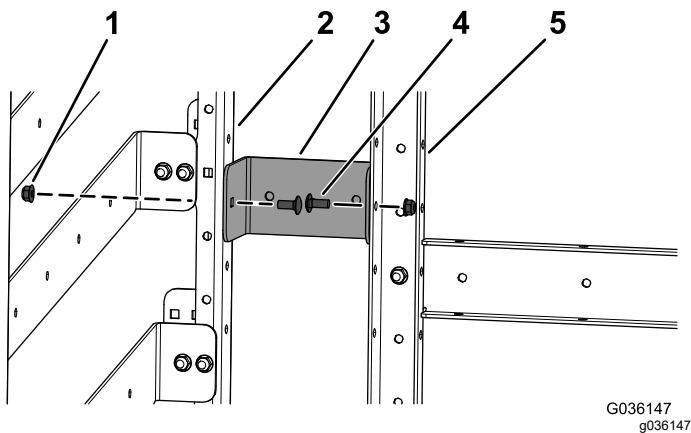
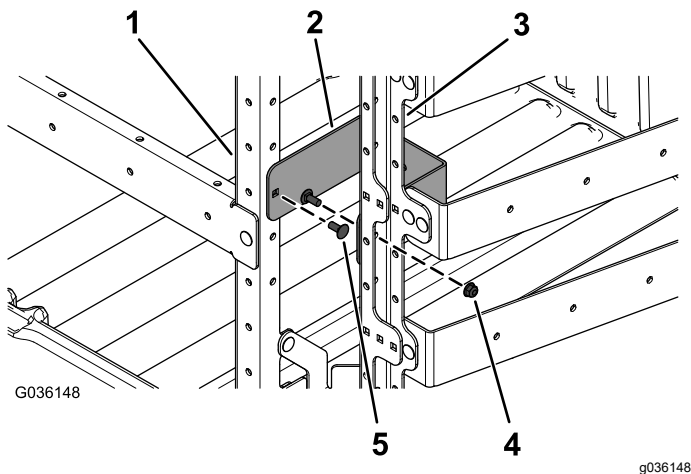

Figure 10
Figure 11
9. Install the fire-extinguisher support **or** cup-cutter bracket to the side upright frame bracket and front upright frame bracket with 2 carriage bolts (5/16 x 3/4 inch) and 2 flange nuts (5/16 inch) as shown in Figure 10 or Figure 11.